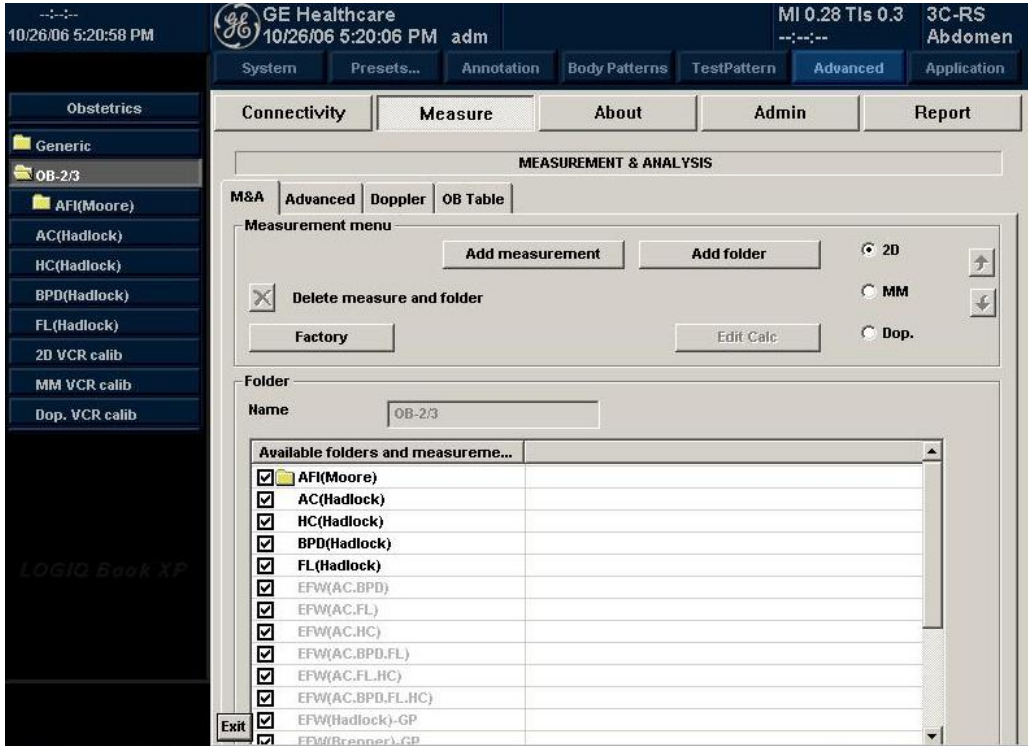

Figure 7-15. Measurement & Analysis: Add folder
- If you select Blank, the system adds a folder with a name such as USERDEFS1. It is listed in the Selection menu. See Figure 7-15.